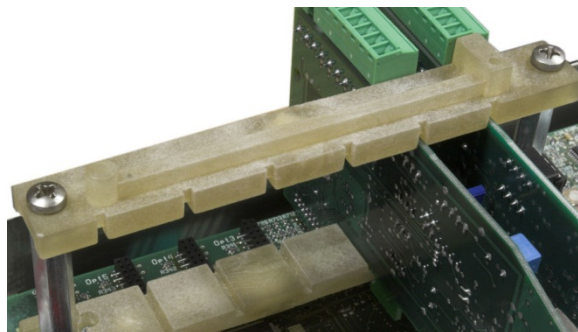

Figure 4-51: Upper Card Guide
9. Remove the two screws attaching the upper card guide, shown in Figure 4-51, and lift the guide from its stand-offs.
1. Loosen and remove the screws holding the upper card guide (Figure 4-51) in place on its stand-offs.
5. Replace the upper card guide, taking care to position the upper edge of the option board/s in the slot/s in the upper guide (see Figure 4-51).